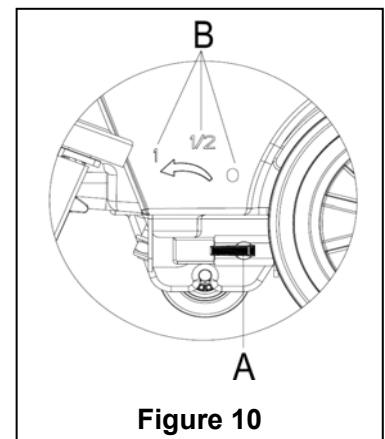

Figure 10
Regulating the ball valve handle (A, **Figure 10**) must be done under the condition when the power switch (41) is in the "O" position.
12. The volume of the water flow may be adjusted through the ball valve handle (A, **Figure 10**) according to the amount of water practically required for scrubbing the floor.